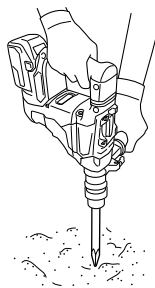

Fig. 14
2. How to chisel or demolish (**Fig. 14**)